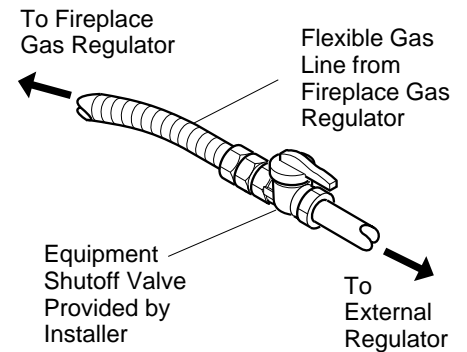

Figure 19 - Attaching Gas Lines Together
**NOTICE: Most building codes do not permit concealed gas connections. A flexible gas line is provided to allow accessibility from the fireplace (see Figure 19). The flexible gas supply line connection to the equipment shutoff valve should be accessible.**
4. Attach the flexible gas line to gas supply (see Figure 19). Check tightness of flexible gas line attached to gas regulator of fireplace (see Figure 19).